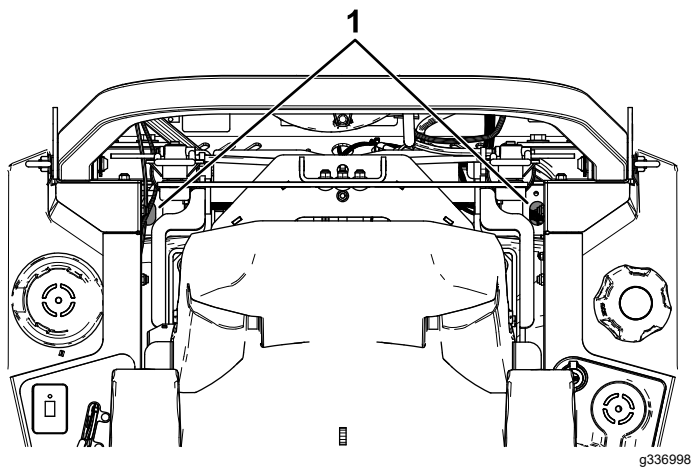

Figure 87
- **For ZT 4400 Hydros**, use an extension and 7/16-inch socket, access the vent plug from the top of the machine through the holes near the roll-bar mounts (Figure 87).